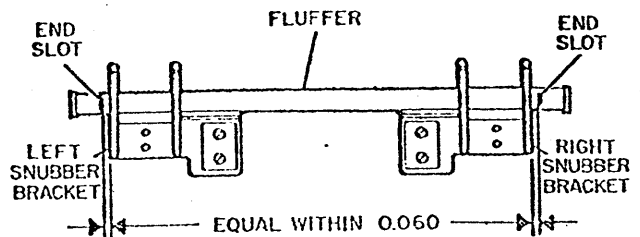

Fig. 3-79. Fluffer Tube
- Check that the end slots of the fluffer tube extend equally past the edge of both snubber brackets within 0.060 (Fig. 3-79).
3. Center the fluffer tube (Fig. 3-79), using the upper two screws (Fig. 3-79). Tighten the upper two screws.